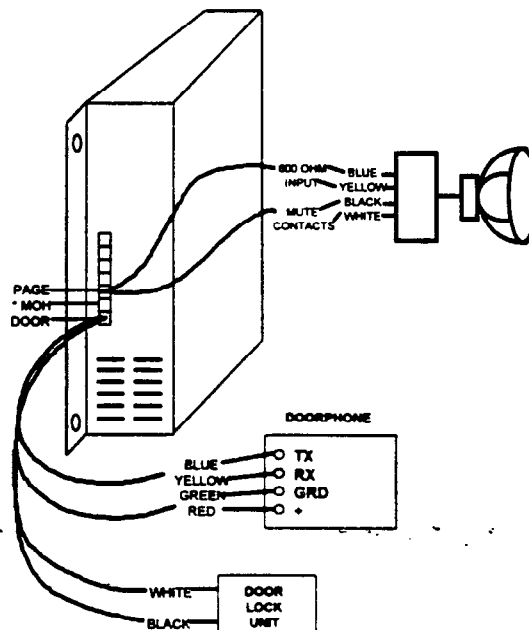

Figure 13
5. In order to connect Station Numbers 9 through 16, expansion cards MT-STU-A, B or C must be installed. See Figure 13.